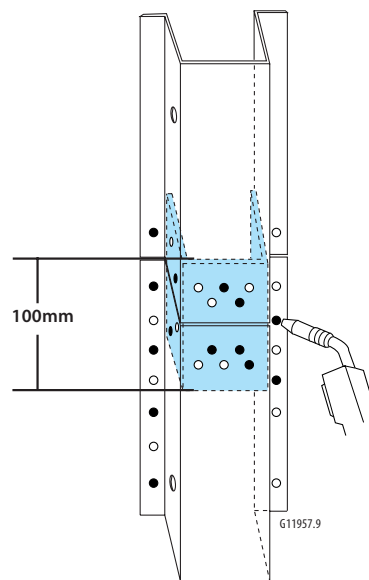

Figure 7-9:
5. Align the quarter panel to adjacent panels and plug weld accordingly (figure 7-9).